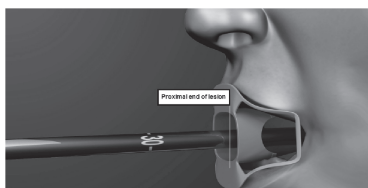

Fig.12 Insert the flexible bronchoscope through mouth. Correctly measure the carina to incisors.
5.2 Instructions for use under endoscopy (Refer to Fig.12 to Fig.20):